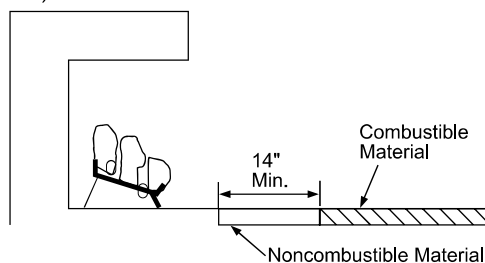

Figure 8 - Minimum Fireplace Clearances If Installed at Floor Level
A.If installing appliance on the floor level, you must maintain the minimum distance of 14" to combustibles (see **Figure 8**).